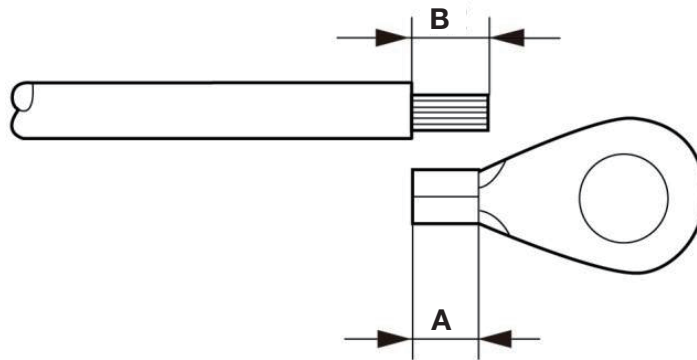

Figure 5.7 Suitable length
- Strip the ground cable insulation to a suitable length(see Figure 5.7).